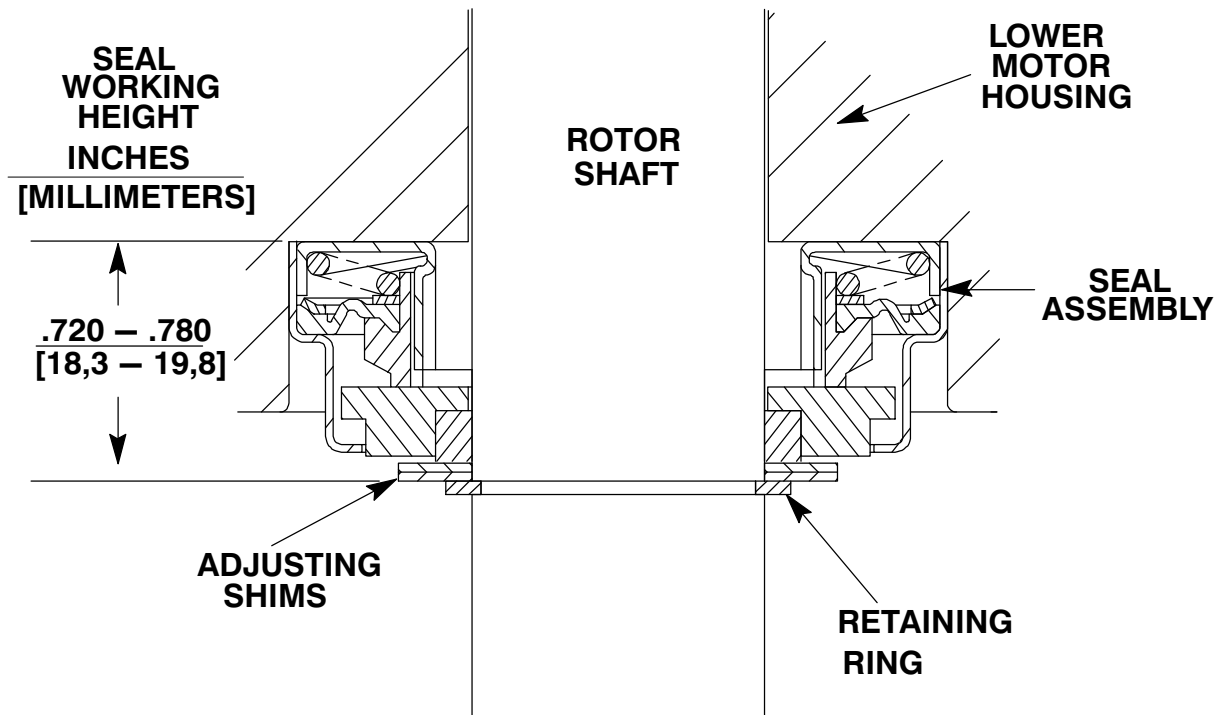

Figure C-3. Upper Seal Assembly
If all of the original motor parts are being reused, the same thickness of shims (35) as previously removed may be installed. However, if new motor parts are being installed that will affect parts “stackup”, or if the thickness of shims removed at disassembly is unknown, it will be necessary to measure the seal bore in the intermediate to determine the required shim thickness. This distance is measured from the bottom of the bore in the intermediate to the motor side of the retaining ring (36). Select the required combination of shims to obtain a seal working height of 0.720 to 0.780 inches (18,3 to 19,8 mm) as shown in Figure C-3.